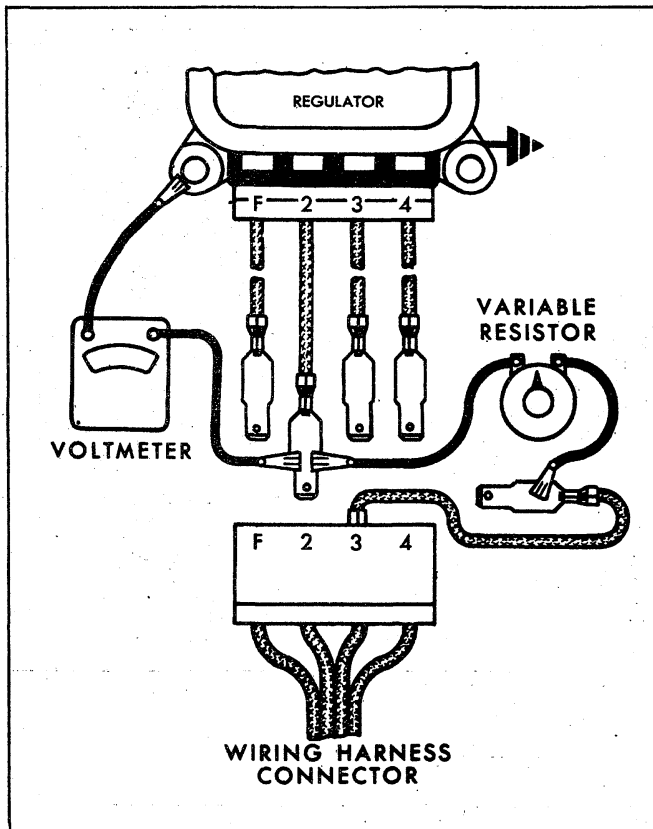

Fig. 12c—Field Relay Closing Voltage Test
1. Make connections as shown in Figure 12c using a 50 ohm variable resistor.